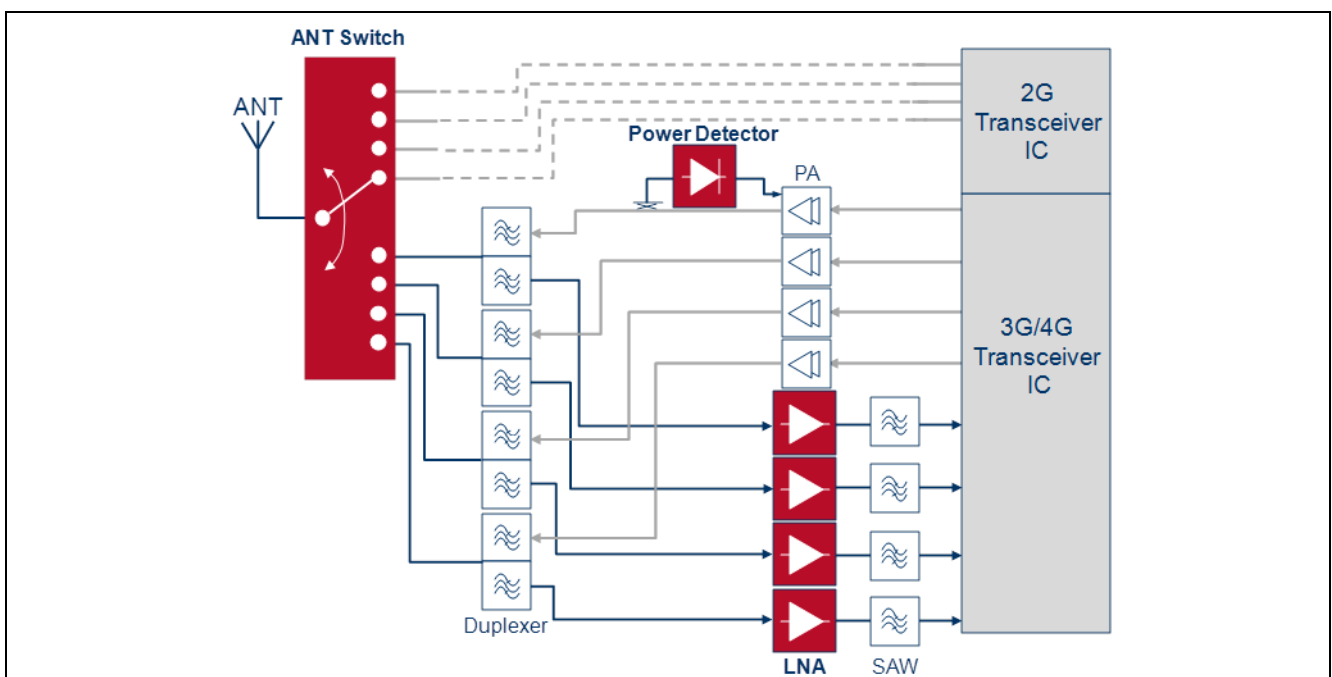

Figure 1 Example of Application Diagram of RF Front-End for 3G and 4G Systems.
Figure 1 shows an example of the block diagram of the front-end of a 4G modem. A SPnT switch connects one side the antenna and several duplexers for different 4G bands on the other side. Every duplexer is connected to the transmitting (TX) and receiving (RX) paths of each band. The external LNA, here for example Infineon single-band LNA BGA7H1N6, is placed on the RX path between the duplex and the bandpass SAW filter. The output of the SAW filter is connected to the receiver input of the transceiver IC.